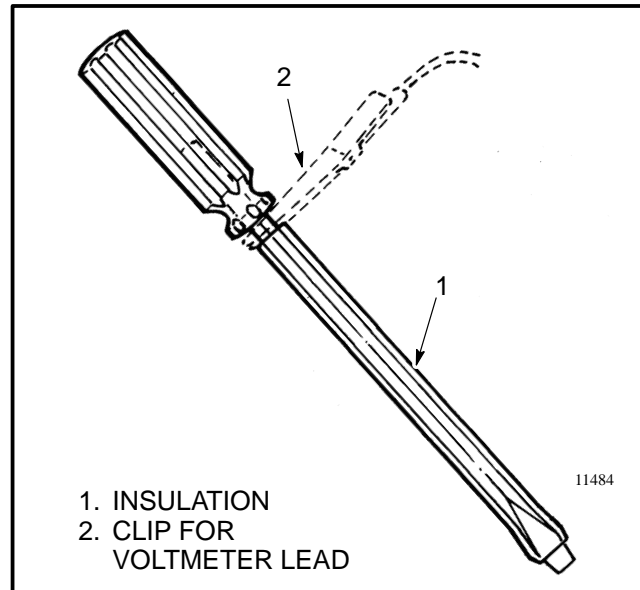

FIGURE 8. INSULATED PROBE
- 20 cm (8 in) insulated probe. A long thin screwdriver with an insulated shaft can be used as an insulated probe when checking the voltages on the electronic drivers and the SCRs. (See FIGURE 8.)